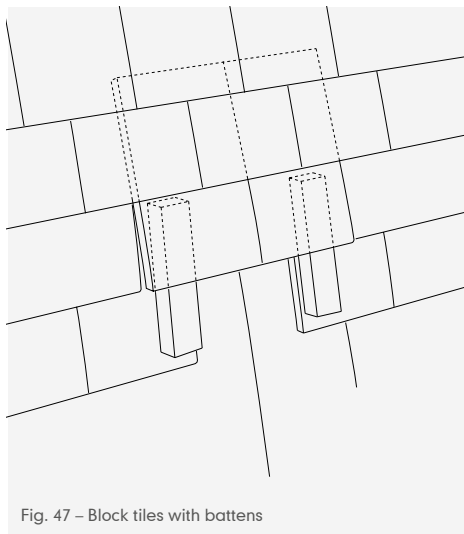

Fig. 47 – Block tiles with battens
- 1 Remove damaged tile by raising up the neighbouring tiles with a timber wedge and sliding the tile out with the nibs clearing the top of the batten. Any nails should be removed and disposed of safely (Fig. 47).